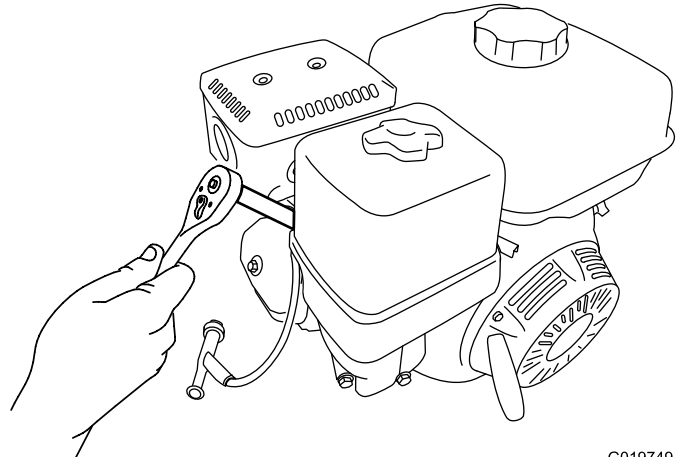

Figure 46
5. Rotate the spark plug counterclockwise using a 13/16 inch (21 mm) spark-plug wrench to remove the plug and the sealing washer (Figure 46).
2. Rotate the spark plug clockwise using a 13/16 inch (21 mm) spark-plug wrench until the plug and sealing washer are seated (Figure 46).